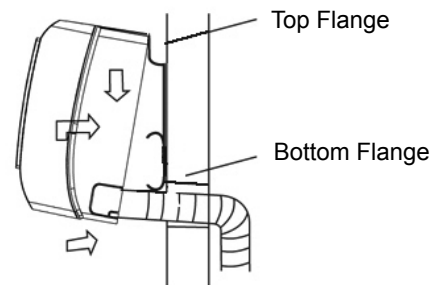

Fig. 15
- D. Hang the unit onto the top flanges of the wall bracket. Ensure the unit is properly seated. (Fig. 15)